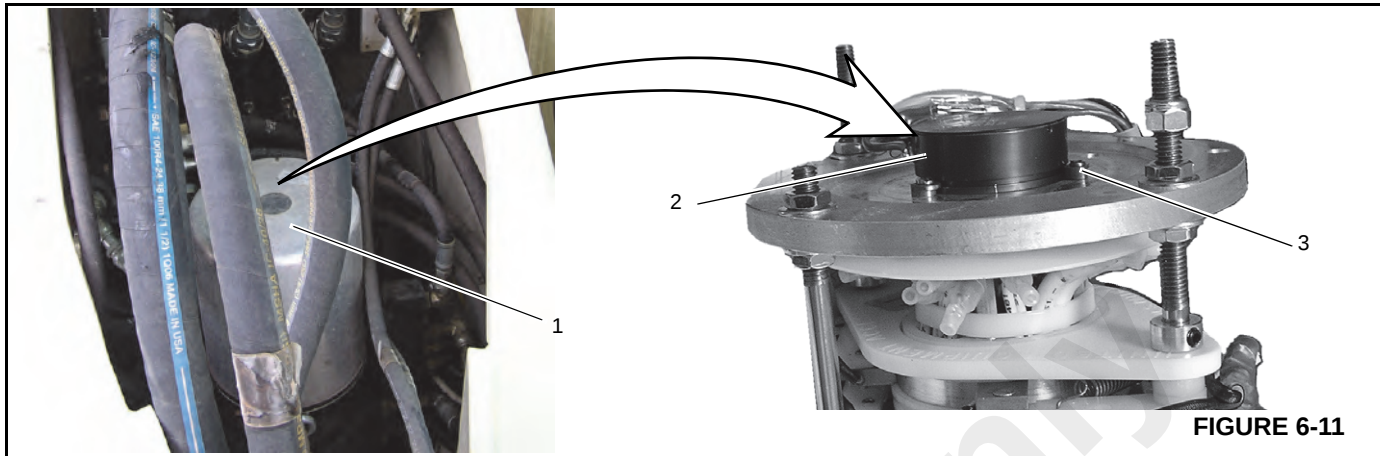

FIGURE 6-11
The slew potentiometer is a component of the hydraulic and electric swivel assembly which is mounted inside the superstructure turret. The top part of the swivel assembly is the electrical swivel section (1, Figure 6-11) and contains the slew potentiometer (2, Figure 6-11).
6. Loosen the three screws (3, Figure 6-11) that secure the slew potentiometer to the mounting plate.
7. Rotate the body of the slew potentiometer (2, Figure 6-11) until the slew angle indicates $0.6^\circ \pm 0.1^\circ$.
8. Tighten the three screws (3, Figure 6-11) to secure the slew potentiometer to the mounting plate. Install the electrical swivel cover.